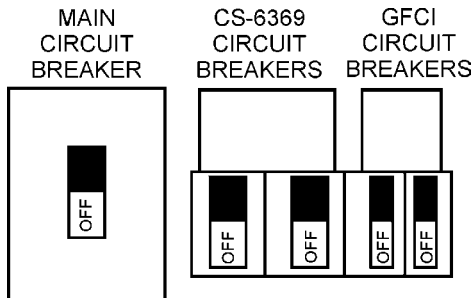

Figure 24. Main, Aux. and GFCI Circuit Breakers (OFF)
- Place the **main, G.F.C.I., and aux.** circuit breakers (Figure 24) in the **OFF** position prior to starting the engine.